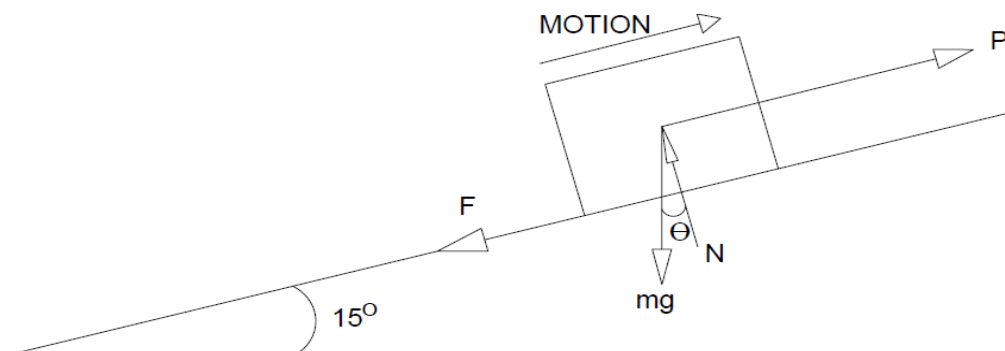

Figure 1
- Determine the value of the force P, required to just move the body of mass of 25 kg up the plane shown in the Figure 1 below. Assume that the coefficient of limiting friction, $\mu = 0.3$ and $g = 9.81 \text{ m/s}^2$. (11 Marks)